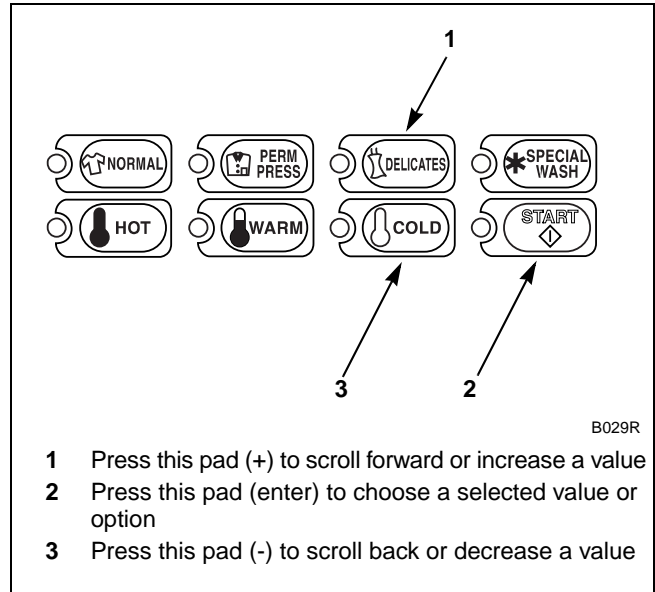

Figure 182
5. Press the DELICATES (+) or the COLD (-) keypad to increase or decrease the current number of minutes displayed in the VFD to the desired number of minutes. Refer to *Figure 182*.
**NOTE: The Special Wash Spin Extract Time can be set from zero (0) to 15 minutes.**